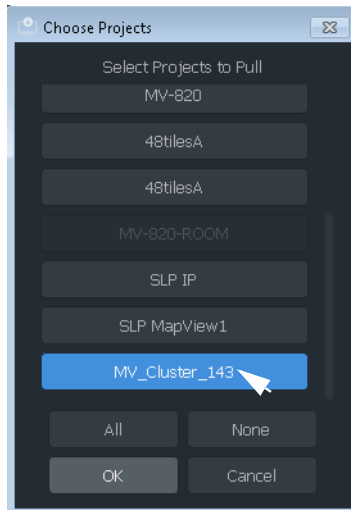

Fig. 14-17: Choose Pull
- 2 Ensure that the project Repository to be pulled is selected (highlighted in blue) in the dialog. See Figure 14-17.